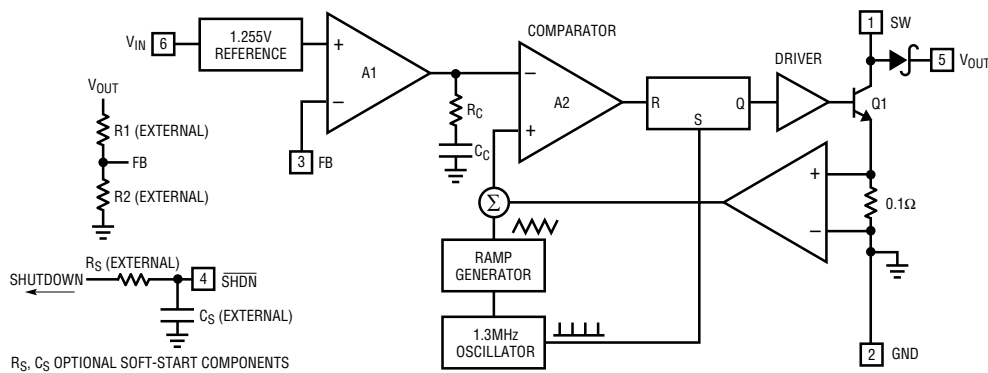

Figure 2. Block Diagram
**SHDN (Pin 4):** Shutdown Pin. Tie to 1.5V or higher to enable device; 0.4V or less to disable device. Also functions as soft-start. Use RC filter (47k, 47nF typ) as shown in Figure 2.
The LT3461 uses a constant frequency, current mode control scheme to provide excellent line and load regulation. Operation can be best understood by referring to the block diagram in Figure 2. At the start of each oscillator cycle, the SR latch is set, which turns on the power switch Q1. A voltage proportional to the switch current is added to a stabilizing ramp and the resulting sum is fed into the positive terminal of the PWM comparator A2. When this voltage exceeds the level at the negative input of A2, the SR latch is reset turning off the power switch. The level at the negative input of A2 is set by the error amplifier A1, and is simply an amplified version of the difference between the feedback voltage and the reference voltage of 1.255V. In this manner, the error amplifier sets the correct peak current level to keep the output in regulation. If the error amplifier's output increases, more current is delivered to the output; if it decreases, less current is delivered.